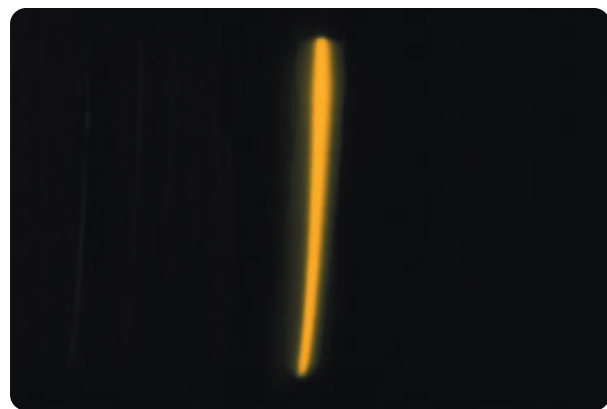

Figure 3 The spectrum of sodium
10. Refer to the spectrum of sodium shown below in Figure 3. Repeat steps 5 to 8 for the two unnamed solutions labelled A and B.